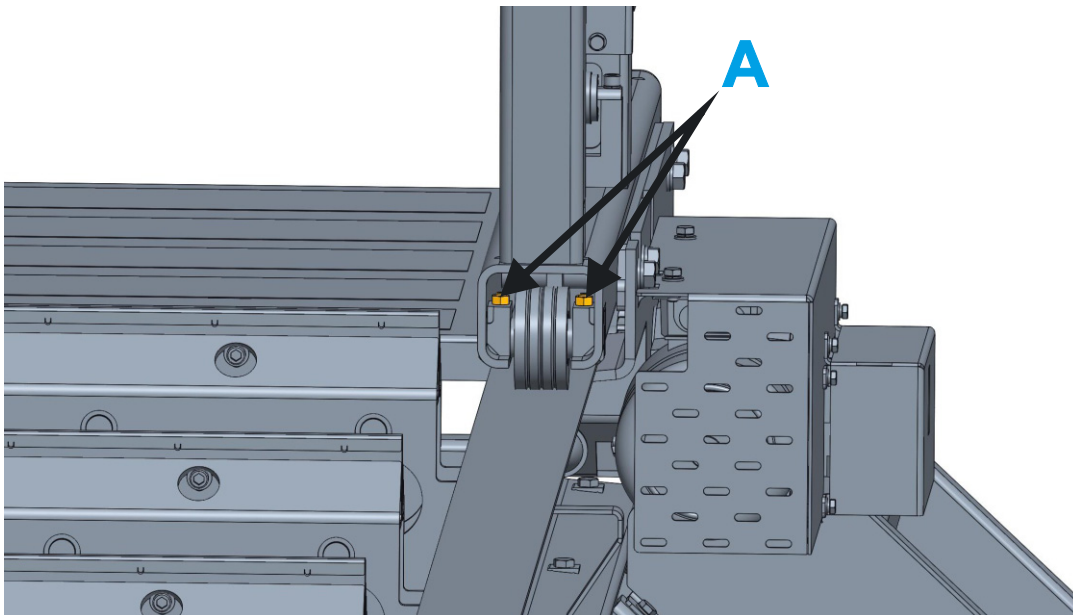

FIG. 5-3
See Figure 5-3 Use the adjustment bolts (A) of the mast rollers to level the mast. Adjust the bolts on each roller evenly.